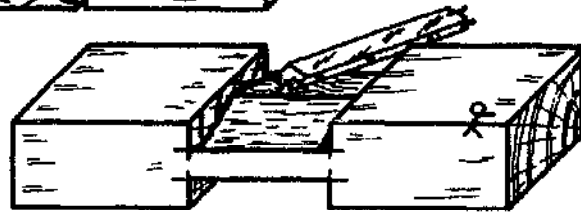

Fig. 7
- Chisel away the waste, chiselling halfway through from both edges (Fig. 7).